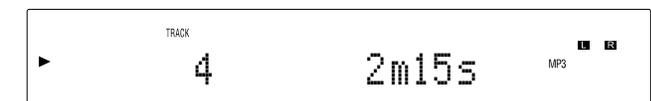

Figure 40
1. Press the PLAY/PAUSE $\blacktriangleright/\parallel$ Push-button to start Playback. Refer to figure 40.